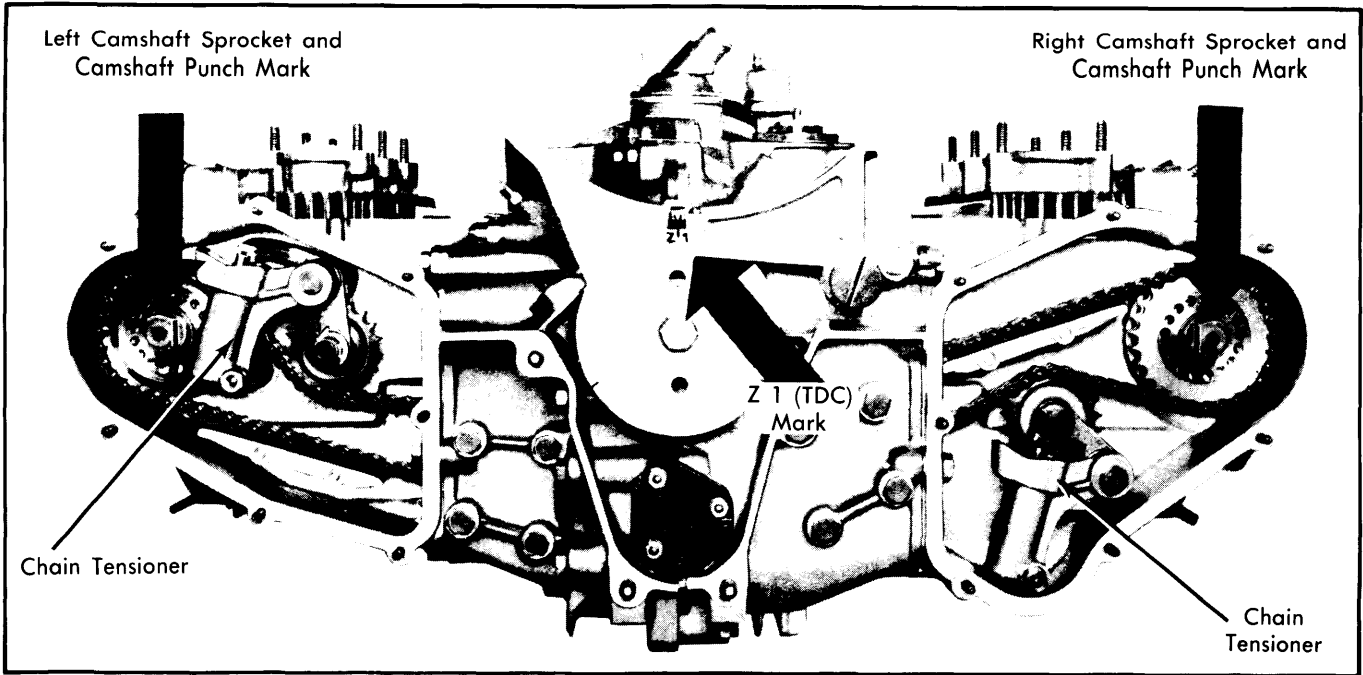

Fig. 7 View of Engine from Blower End (Rear of Car) Showing Valve Timing Marks
1) Rotate crankshaft until mark "Z 1" on crankshaft pulley aligns with mark on crankcase. Use suitable tool (P 202) to rotate camshaft until dot on end of shaft is on top of camshaft vertical centerline. See *Fig. 7*. Find hole in camshaft sprocket which exactly lines up with camshaft flange and insert dowel pin. Install lock washer and nut.